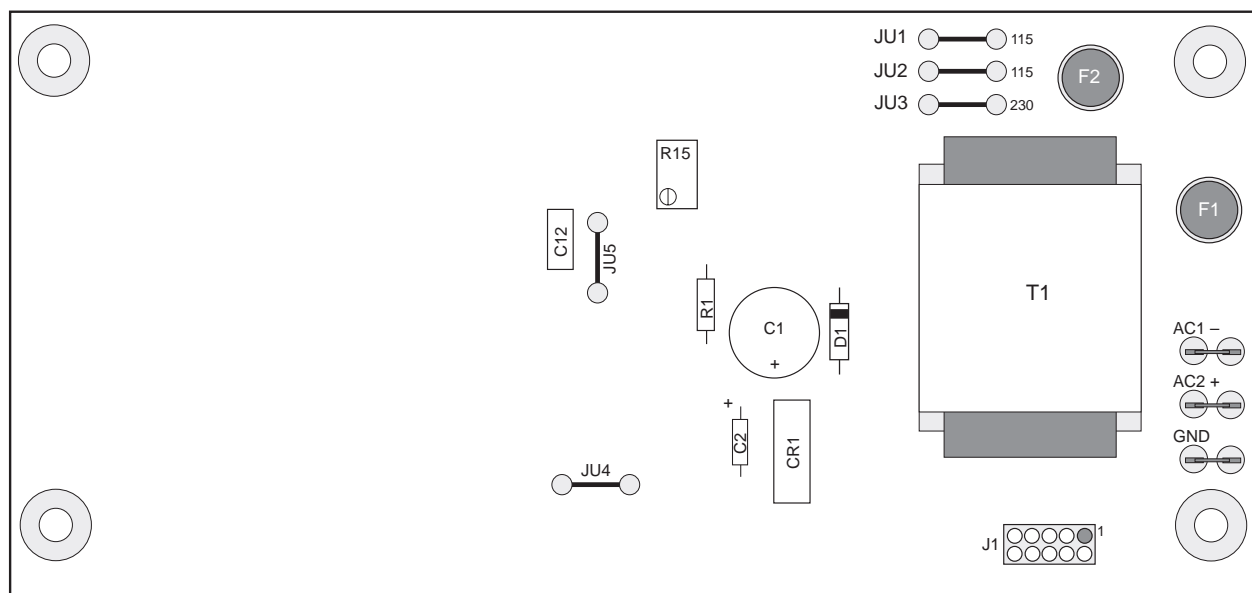

Figure 7-1. Remote I/O Power Supply Board
Both operations require opening the enclosure and removing the logic board to access the power supply board. Figure 7-1 shows the layout of the power supply board, including the locations of the power supply fuses (F1 and F2) and the jumpers used to select operating voltage (JU1–JU3).
3. Disconnect AC power connections on power supply board (AC+, AC–, and GND in Figure 7-1 on page 45), then lift board out of enclosure.